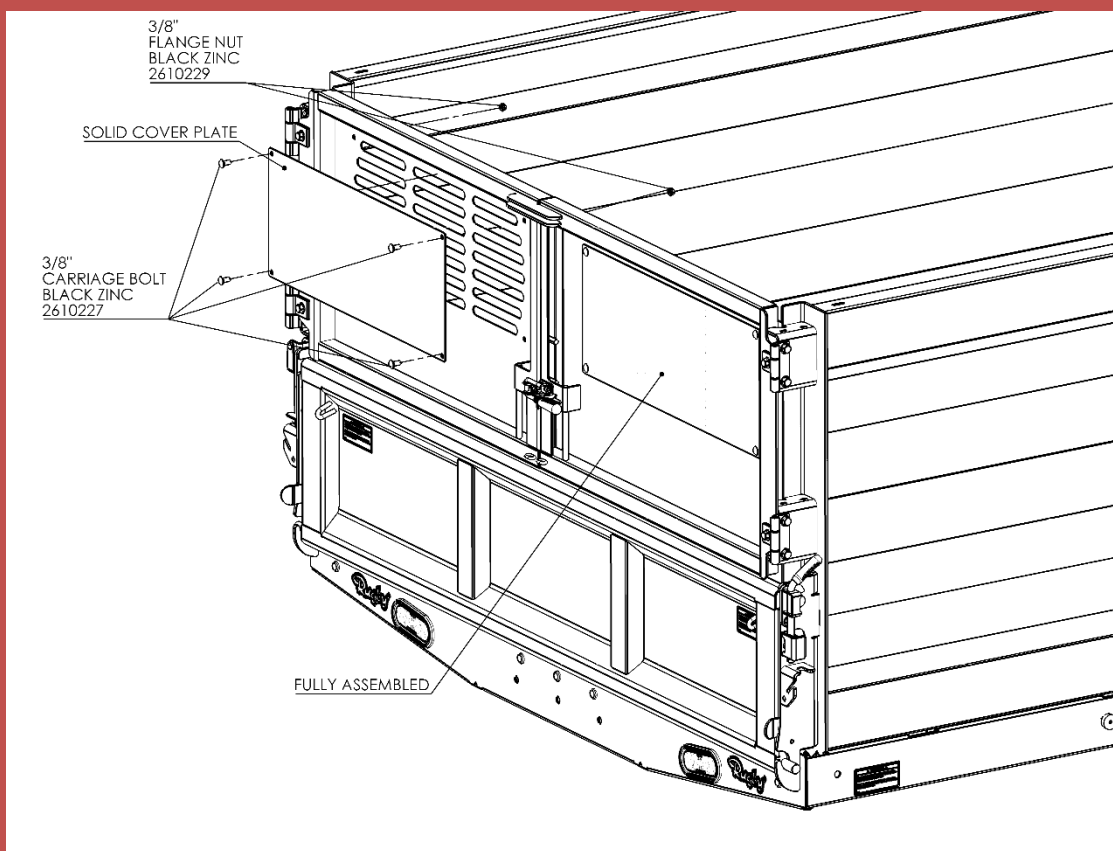

Figure 28: Installation of the 3-Piece Solid Door Cover Plates
1. Refer to **Figure 28** for the location of the Solid Cover Plates.